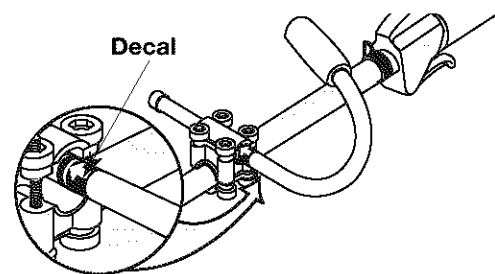

Fig. 2
7. Slide the assist handle in or out until the arrow/white line on the decal touches the clamp assembly (Fig. 2).